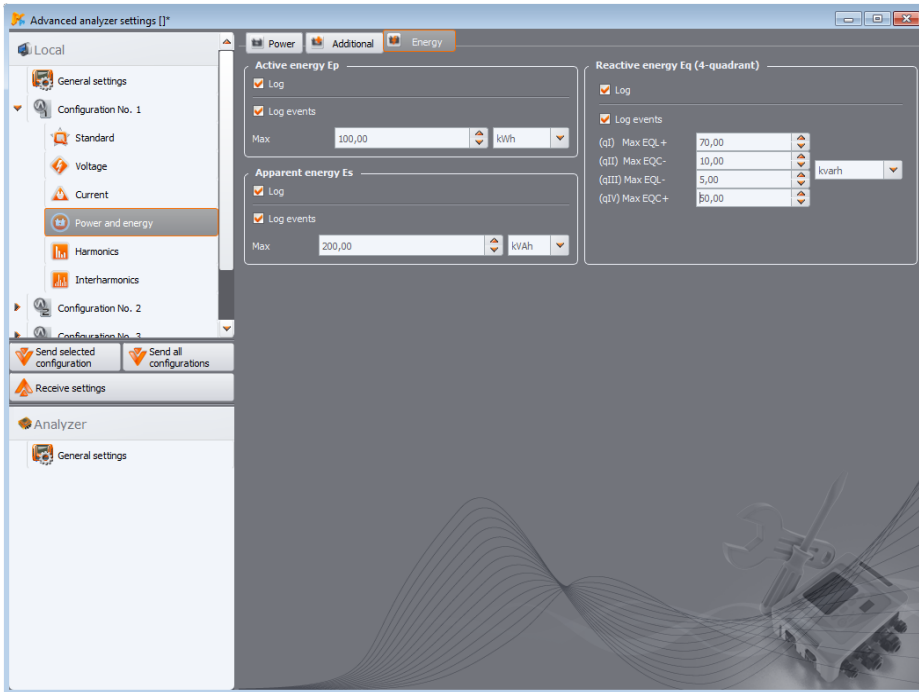

Fig. 28. Power and energy – Energy tab.
**ENERGY** tab is shown in Fig. 28. Apart from the option of enabling the recording process of energy values with a defined averaging period, the user may also define event detection when energy exceeds a given threshold. The setting ranges are as follows: